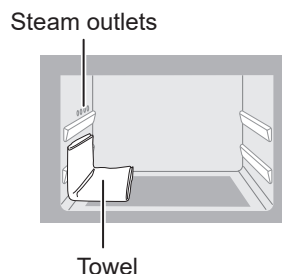

Figure 2
- 2** Place a folded towel under the steam outlets as shown in Figure 2.
- 5** When the oven has stopped, wipe oven cavity, then wring the towel and put it again as shown in Figure 2. Remove water tank, empty, rinse and refill with water over the 1 mark. Replace the water tank.